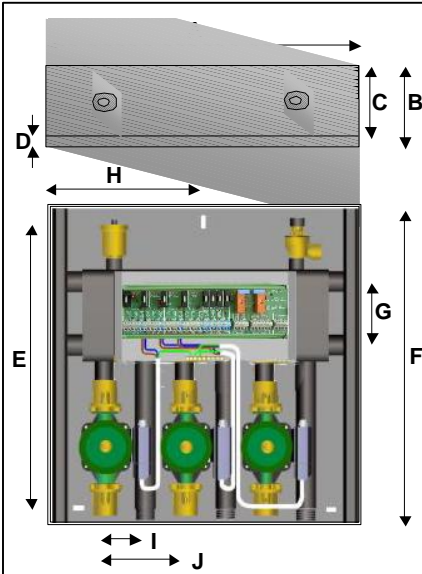

Fig 3
- Connect the boiler heating flow to port A or C and the boiler heating return to B or D on the SystemZone as shown in Fig 3.